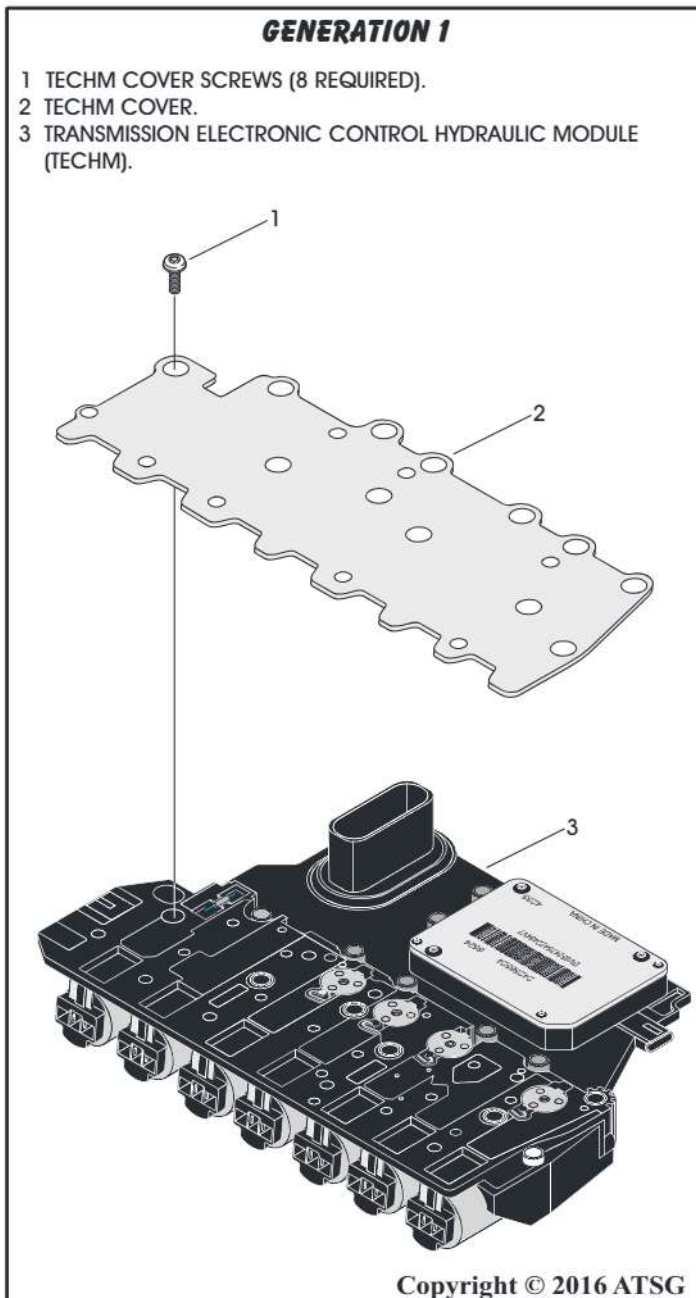

Figure 173
106. Remove the eight (8) Generation 1 Transmission Electronic Control Hydraulic Module (TECHM) cover screws and remove cover as seen in Figure 173.